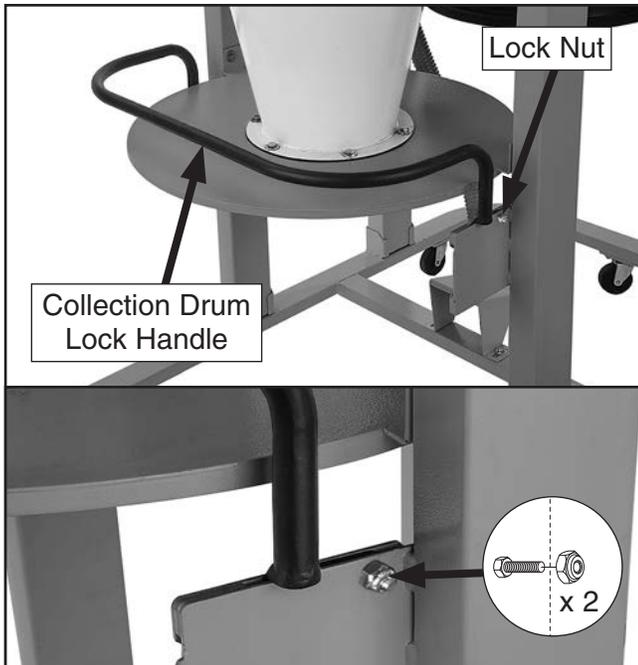

Figure 25. Collection drum lock handle attached to lower legs.
25. Align holes in collection drum lock handle with holes in lower legs, then secure drum lock handle to legs (see **Figure 25**) using (2) $\frac{1}{4}$ "-20 x 1" hex bolts and (2) $\frac{1}{4}$ "-20 lock nuts.